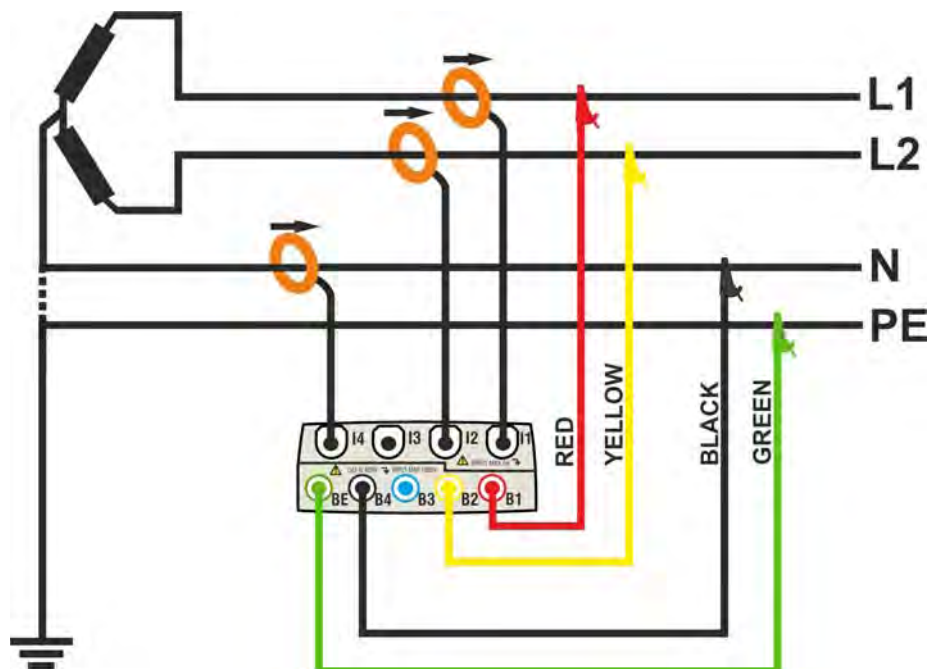

Fig. 143: Meter connection in a two phase 3-wire 3P2E system – ENG_UK type
2. Connect voltage test leads on Phases L1, L2, N and PE cables considering the colours as shown in Fig. 143
3. Connect the transducer current clamps on Phase L1, L2, N cables as shown in Fig. 143 respecting the clamp's arrow direction indicating the current standard sequence from generator to load. **On Real Time Values' section screens (selecting a 3 wire system preliminarily) always verify the positive value of Active Power and the power factor relative to load which should be normally inductive before starting a recording.** Reverse the clamp by 180 degrees on cables in case of negative readings.